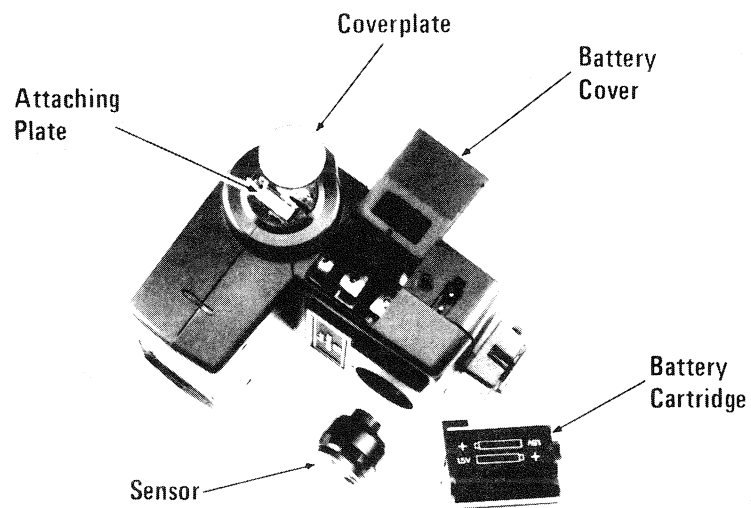

Figure 3-1. Coverplate Removal
- A. Remove battery cover completely by sliding open and pressing past retaining stop. With flash head tilted to "O", remove alkaline cartridge battery from compartment. Unplug sensor assembly and lay aside. Take off coverplate by heating slightly with soldering iron and lifting off with thin blade. Pry off attaching plate with small screwdriver and lay aside. Figure 3-1.